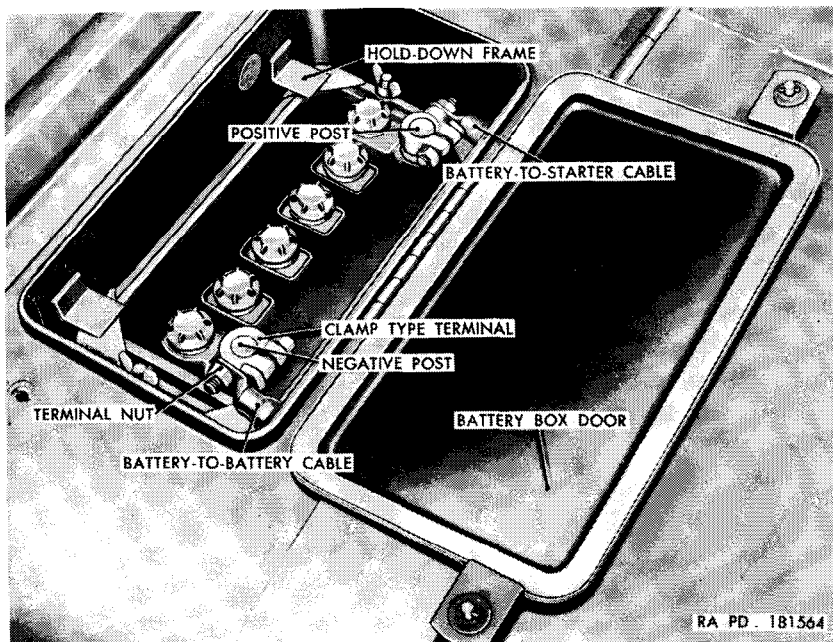

Figure 69. Battery "B" located in cowl.
f. Battery "B" Installation (fig. 69).
- (1) Lower the battery into the cowl (see Note in *d*(1) above).
- (2) Install the hold-down frame and secure with two $\frac{5}{16}$ -inch wing nuts.
- (3) Connect the battery-to-starter cable to the clamp-type terminal on the positive post and secure with a $\frac{3}{8}$ -inch terminal nut.
- (4) Connect the battery-to-battery cable to the clamp-type terminal on the negative post and secure with a $\frac{3}{8}$ -inch terminal nut.
- (5) Close the battery box door and secure by turning the wing nuts one-quarter turn.
- (6) Connect the ground cable to battery "A" (*d*(4) above).
- (7) Check polarity (*g* below).